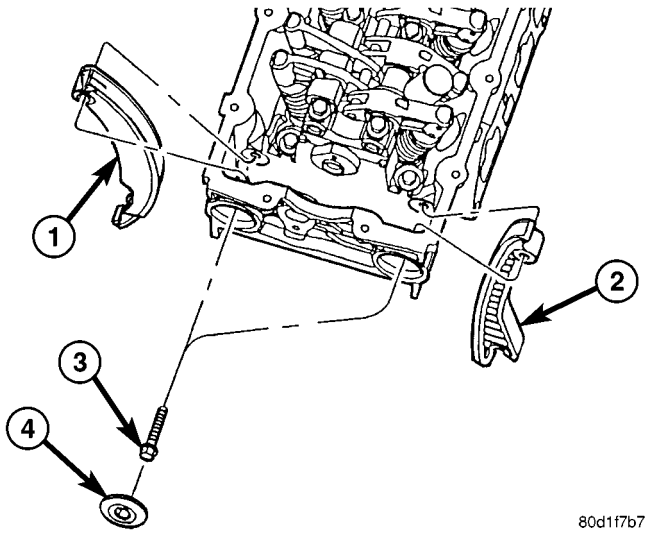

Fig. 19 Timing Chain Guide Mounting
(31) Remove cylinder head plugs. Remove fasteners holding timing chain guides to cylinder head. Remove timing chain guides (Fig. 19).